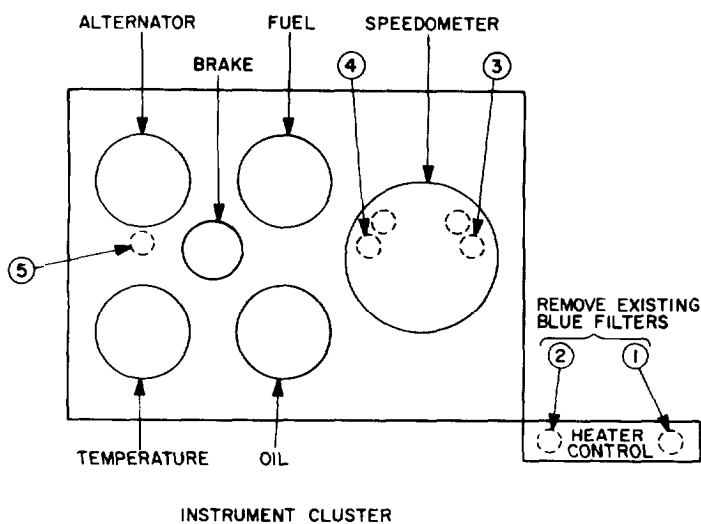

Figure 25-7. Instrument Cluster Lamp Filter Locations.
(43) Remove three 158 instrument lamps (located behind instruments) and two 1892 lamps in heater control area. Install the five red rubber filters, 12258219, over the three 158 instrument lamps and the two 1892 lamps in the heater control area and reinstall lamps (figure 25-7).
(44) Connect cab wiring harness to blackout lighting switch by attaching harness connector to switch.
(45) Reconnect voltage indicator (if necessary), and reinstall instrument panel and glove compartment. This completes cab installation.